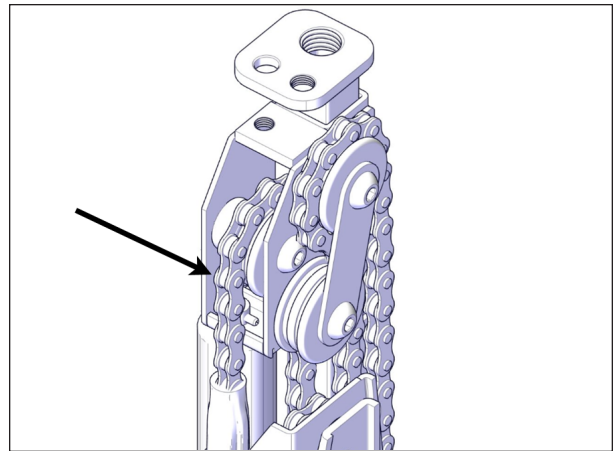

FIGURE 112: JACK CHAINS
- Inspect the chains for signs of deterioration. If this is the case, call your local Covana retailer immediately, see Figure 112.